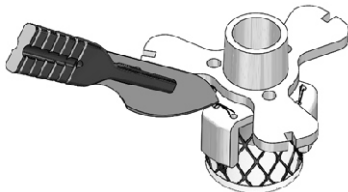

Figure 18: Cutting procedure of the support lines of the valve prosthesis holder assembly.
- D.6. Cut the three suture lines of the holder assembly with the aid of a scalpel, as illustrated in Figure 18, and completely remove the suture lines to separate the valve prosthesis from its support.